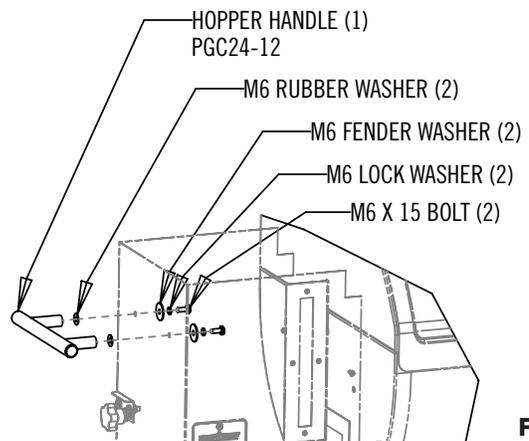

FIG. 4
1. Install hopper handle as shown in Fig. 4.